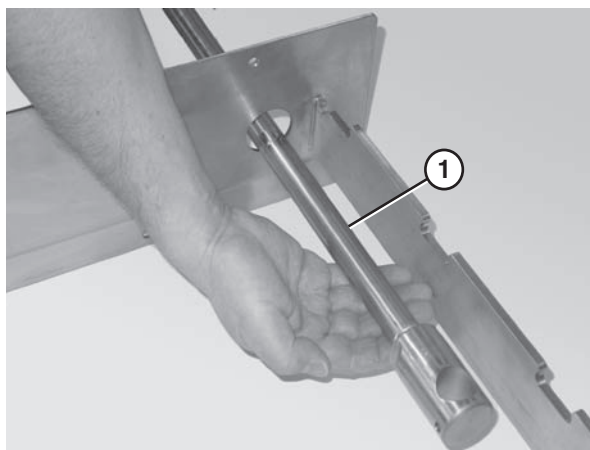

Figure 25
1. Slide the tip up shaft (**Figure 25, item 1**) through the designated slots in the frame.